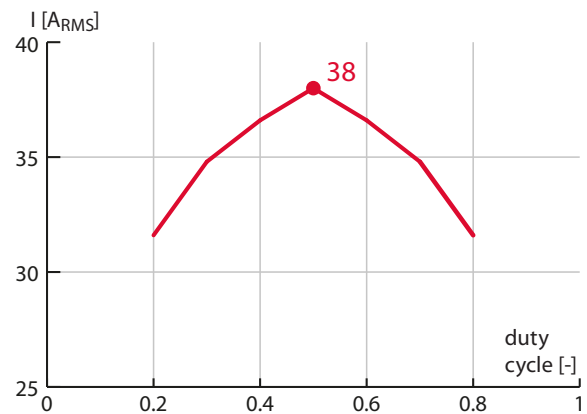

Fig. 4. Current capability as a function of the average duty-cycle
- » The average duty-cycle deviates from 50% (Fig. 4)